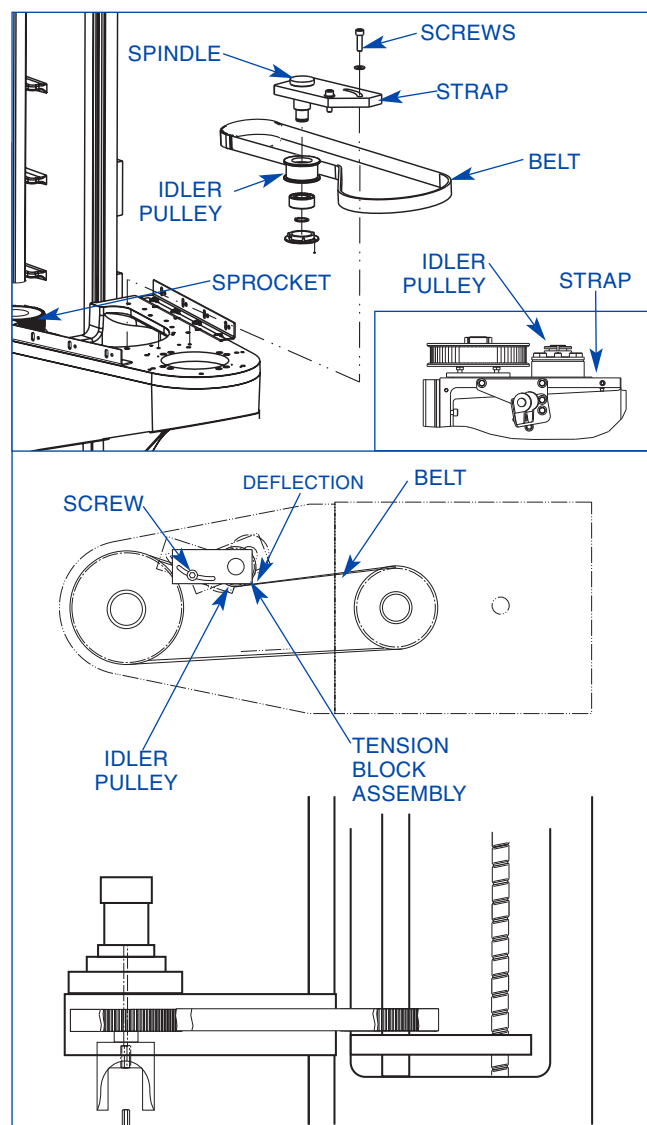

FIGURE 4-8, Lower Spindle Belt Tension
7. Loosen tension on Idler Pulley, by loosening tension Screw in Tension Block Assembly (see Figure 4-8).